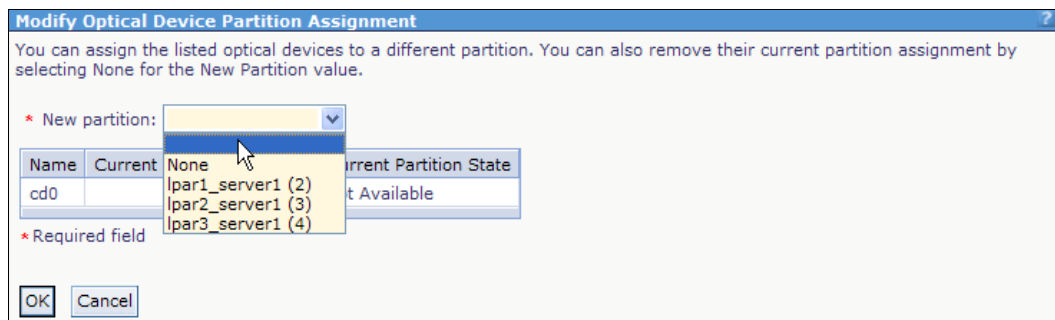

Figure 4-61 Optical Device Partition Assignment
4. Select the name of the LPAR to which you want to assign the optical device, as shown in Figure 4-61. You can also remove the optical device from the current LPAR by selecting **None**.